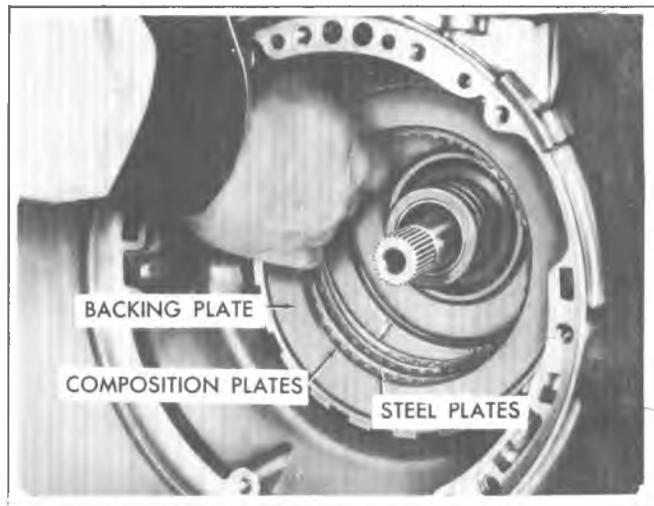

Fig. 7A-161C--Installing Intermediate Backing Plate and Clutch Plates
composition-faced intermediate clutch plates and install, starting with flat steel and alternating composition-faced and flat steel plates (Fig. 7A-161C).
13. Install intermediate clutch backing plate, ridge up (Fig. 7A-161C).